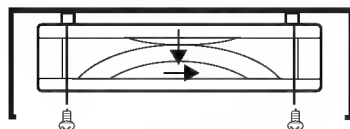

Figure 1
1. Please follow figure 1 to properly installed the bracket that houses the cooling fan.